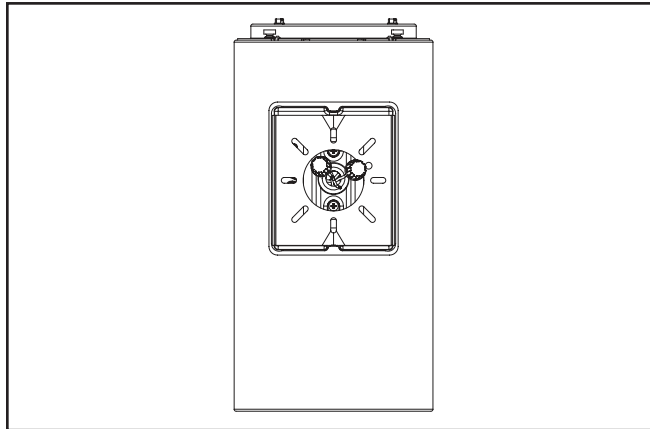

Figure 2.
1. Install wall mounting plate to splice box using splice box hardware (provided by others) and tighten to 17 IN/LBS torque when using 8-32 screw. (Figure 2.)